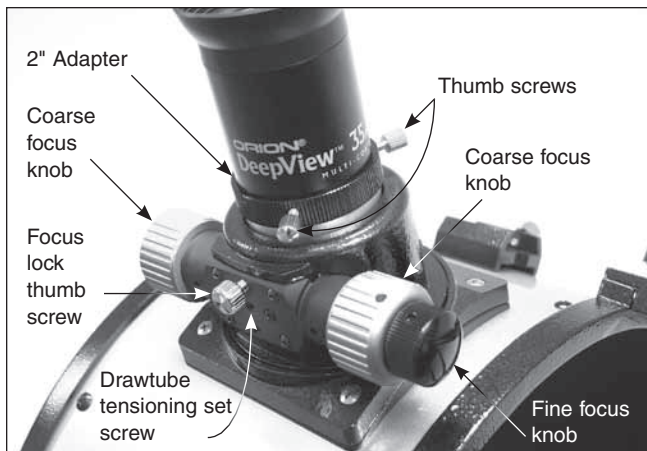

Figure 33. The 2" DeepView eyepiece installed in the focuser's 2" adapter.
3. The final step in the assembly process is to insert an eyepiece into the telescope's focuser. First, take the cover cap off the focuser drawtube. To use the 2" DeepView eyepiece, loosen the two thumb screws on the 2" adapter (on the end of the focuser drawtube) and remove the 1.25" adapter. Then place the 2" eyepiece directly into the 2" adapter and secure it with the two thumb screws loosened previously (**Figure 33**). The other eyepiece and 1.25" adapter can be placed in the eyepiece rack until they are needed.
The XX14i comes standard with a 2" dual-speed Crayford focuser (**Figure 33**). The large 2" format focuser allows use of 2" or 1.25" eyepieces and the Crayford design prevents imaging shifting while focusing. The focuser has coarse focus knobs and a fine focus knob (11:1) for precise focusing.
The thumb screw on the bottom of the body of the focuser (**Figure 33**) will lock the focuser drawtube in place once the telescope is properly focused. Before focusing, remember to first loosen this thumb screw.
drawtube moves by itself under the weight of the eyepiece), you can adjust it by tightening or loosening the drawtube tensioning set screw on the focuser, which is located just below the focus lock thumb screw (**Figure 33**). Adjust this set screw with the included 2.5mm hex key. Do not loosen the set screw too much as there must be some tension to keep the drawtube secure within the focuser. The other set screw below the drawtube tensioning set screw does not affect drawtube tension and should not be adjusted.